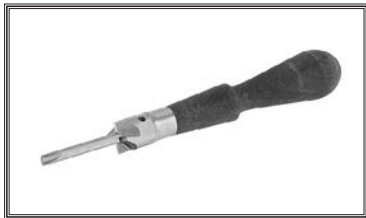

Figure 3. Pen barrel trimmer in wood tool handle.
- Tool Handle (see **Figure 3**):** Verify alignment during trimming and use steady, even turning motions.